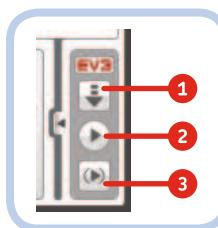

Figure 5-3: The Controller is shown when the Hardware Page is collapsed. The buttons are Download (1), Download and Run (2), and Download and Run Selected (3).
- Hardware Page:** Use this to manage the connection to your EV3 Brick, see sensor and motor readings in real time, browse the EV3 Brick's memory, and more. Even when collapsed, this still shows the **Controller** (Figure 5-3), allowing you to *Download* (1), *Download and Run* (2), and *Download and Run Selected* blocks (3). When a program is running, the (2) button changes to *Stop*. The *Download* command sends all project data (including other programs, images, and sounds) to the EV3 Brick before running the program. Using *Download and Run* sends all the project data and runs the program you are currently working on. Using *Download and Run Selected* is quicker because it allows you to download and run only the selected chunk of a program. When a project gets large, downloads can become time consuming, especially if you just need to test a couple of blocks!
Save the project now with the name *myROV3R*, and test the program on ROV3R by pressing the **Download and Run** button in the Hardware Page Controller [Figure 5-3(2)].